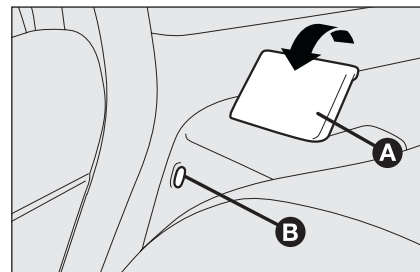

fig. 89
- ☐ lift seat back retaining lever **A-fig. 89** and tilt the seat back forward. Lever lifting is shown by a “red band” **B**.